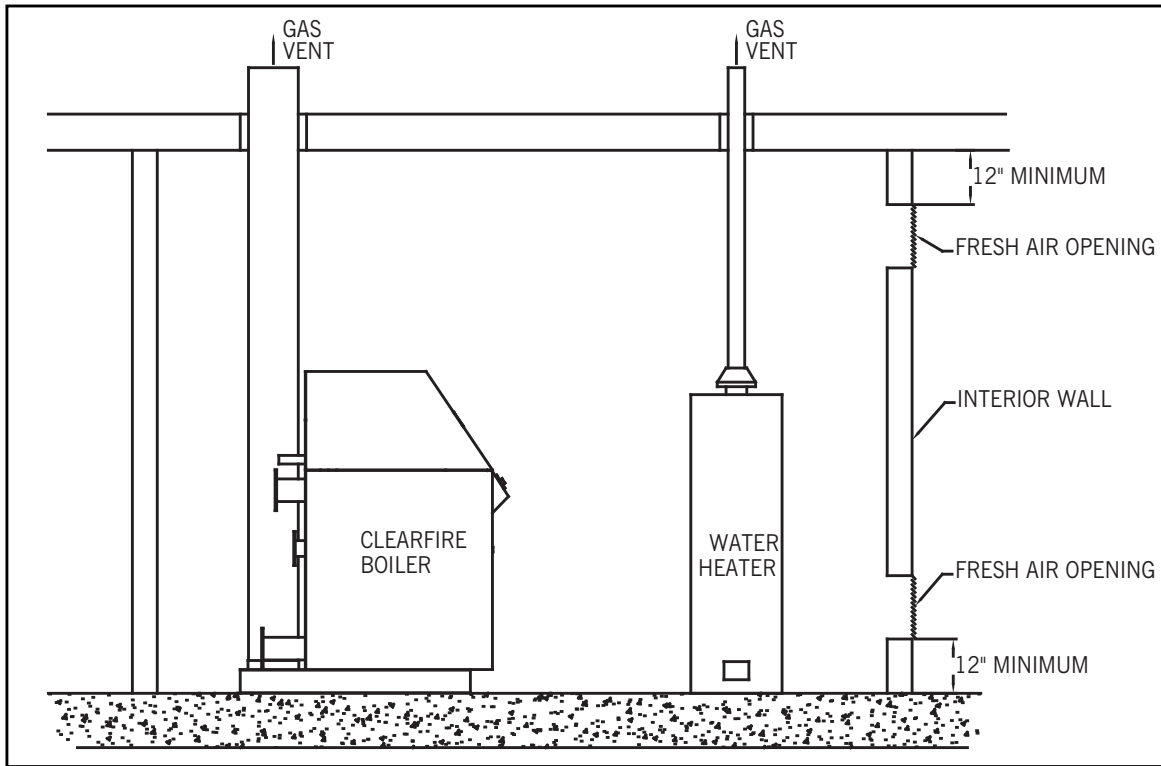

Figure B5-45. Two Opening Outside Wall Method
1. Two Opening Method (Figure B5-45) - The mechanical equipment room must be provided with two permanent openings, one terminating within twelve inches from the top, and one opening terminating within twelve inches of the bottom of the room.